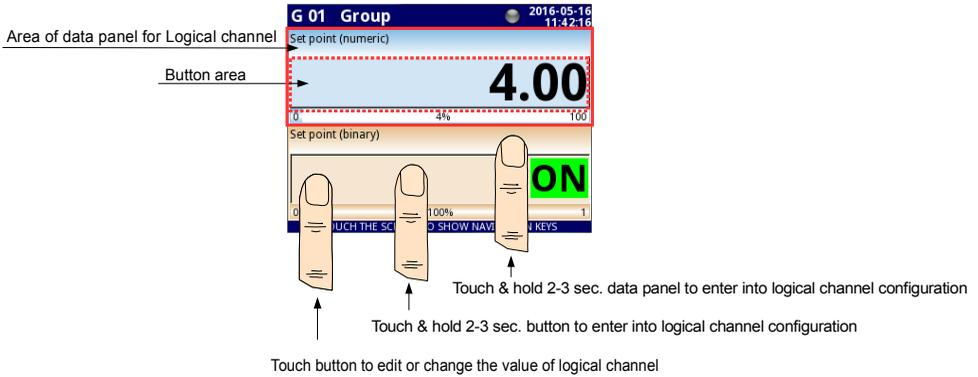

Fig. 7.50. Data panels for Logical channel in **Set point value** mode
- **Edit button** - this parameter allows you to activate the button in the panel data (see **Fig. 7.50**), this parameter has two options: